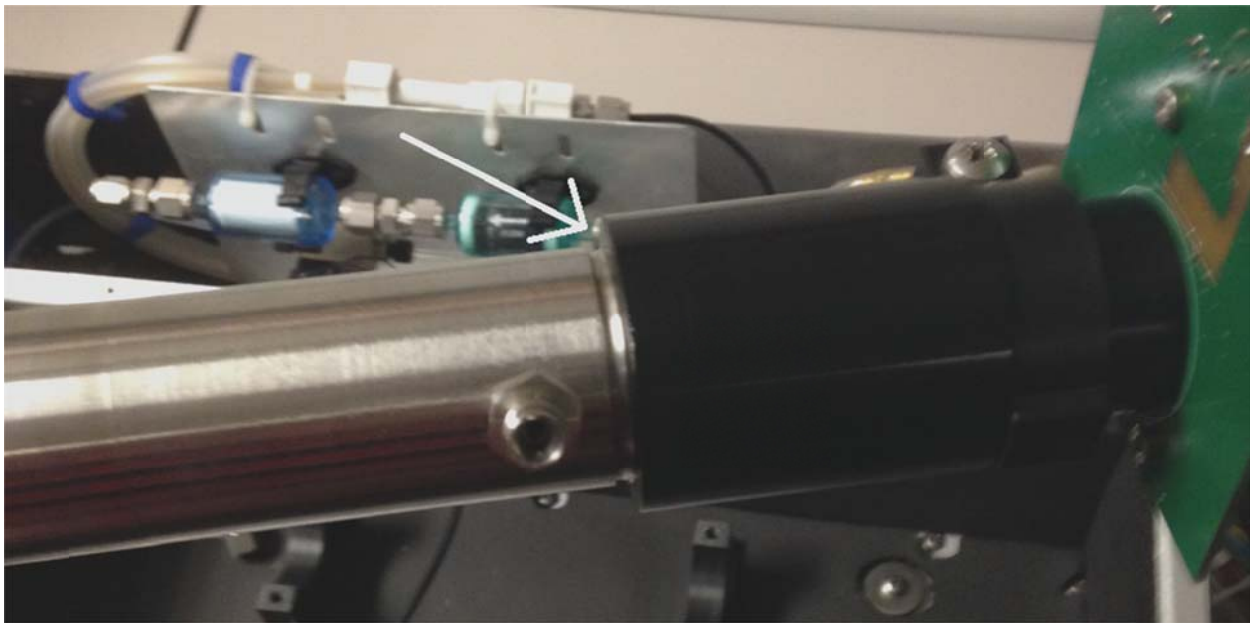

Figure 5
5. Carefully unscrew the black section from the stainless section of one end of the tube as shown in Figure 5. **Caution - There is an O-ring between the mirror and black section inside, be sure not to lose this.**